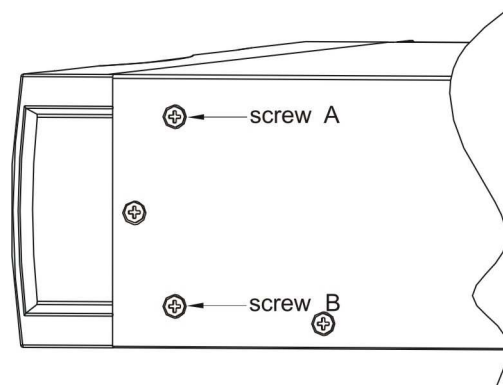

Fig 10 Cabinet installation bracket assembly
- ③ screw the two M4 screws described as Fig 10 (symmetrical on both sides, a total of four).